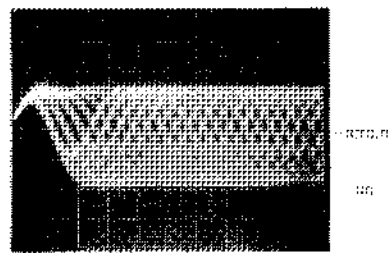

Fig. 12
2. Adjust the tangential adjustment screw so that the RF wave-form will have a level maximized and an eye pattern clearly viewed. Turn the adjustment screw both clockwise and counterclockwise to points where the eye pattern deteriorates, and take the midway point as the adjustment point. As a general guide, look for an overall clear wave-form, and one of the diamond shapes in the eye pattern. The diamond shapes should appear in fine lines at the point of optimum adjustment. Take care not to knock the pick-up with the screwdriver at this stage. (This kind of accident can result in loss of focus.) (See Fig. 12, 13)